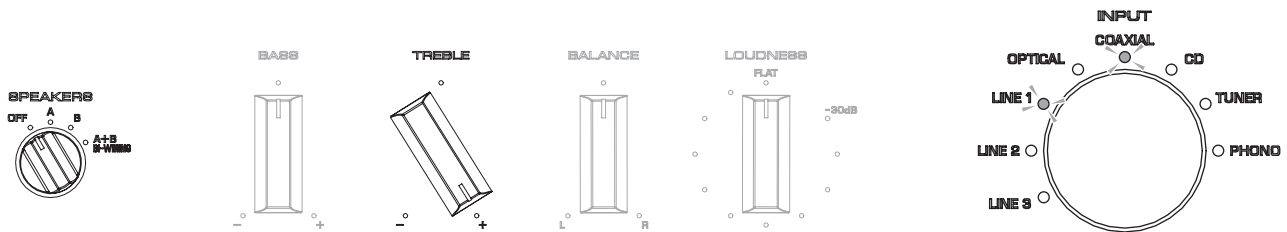

Fig. 11
Turn the "TREBLE" knob to "+" and the "SPEAKERS" knob to "OFF". (Fig. 11)
The AD value for the diode THM (temperature) (TH501 on FUNCTION (4) P.C.B. and D111 on MAIN (1) P.C.B.) is indicated in binary code (BCD) using the "INPUT" indicators. (Fig. 11)